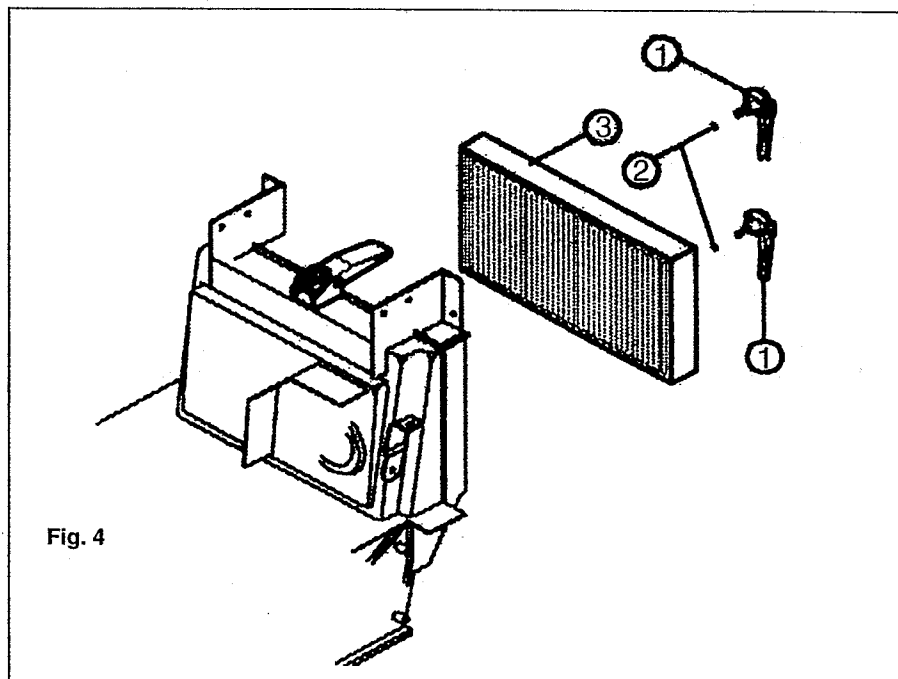

Fig. 4
- Lift the blocking handle (#1, Fig. 4).
- Remove the filter (#3, Fig. 4) while holding up the filter shaker rod.
- To remount the filter (#3, Fig. 4) carry out the operation in reverse order.